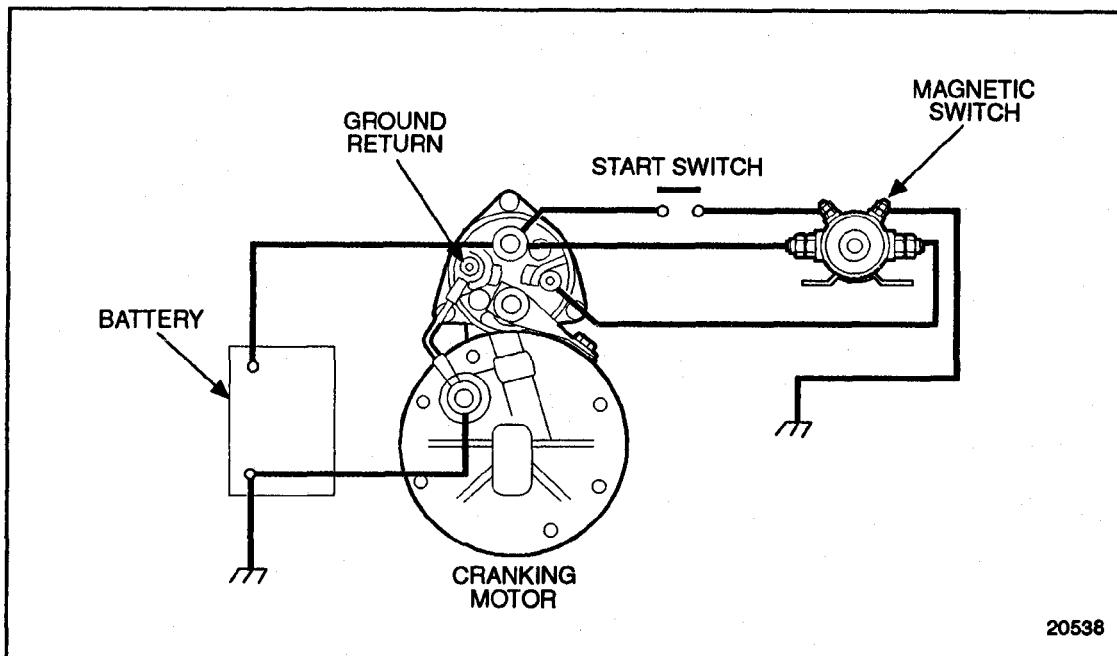

Figure 18-1 Basic Cranking Circuit
2. Clamp a heavy gage battery jumper cable between the two large studs of the magnetic switch; see Figure 18-1.